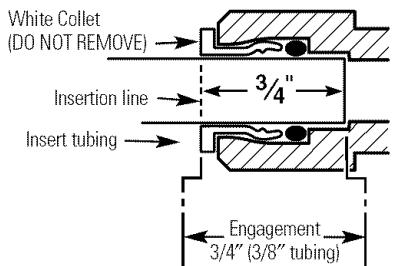

Fig. 11
- Push the tubing firmly into each fitting on the manifold until the line is flush with the fitting collar. (If the tubing is removed, re-cut the end, measure, mark and re-insert). Tubing must be fully inserted to avoid leaks (Fig. 11). (**To remove tubing, depress and hold white collet; pull tubing out to remove.**)